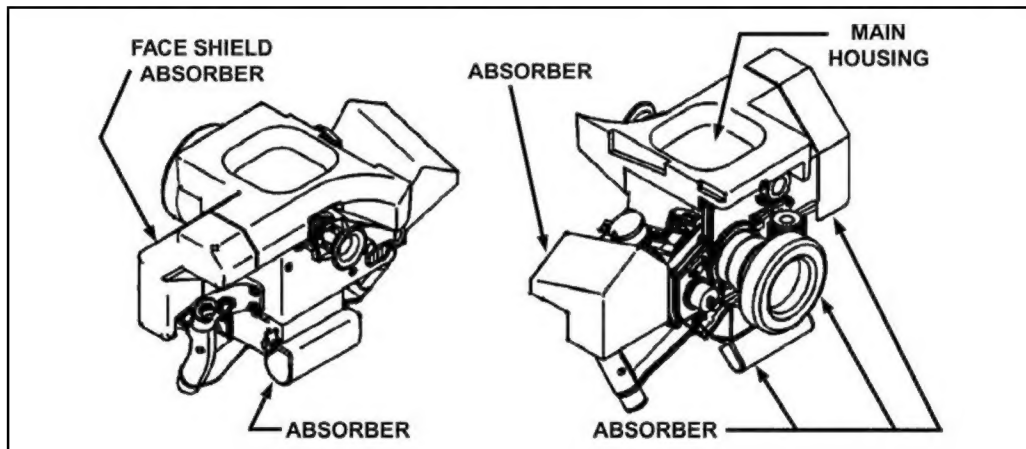

Figure 1-7. Main housing and absorbers.
a. **Main Housing.** The main housing (body) of the CLU (Figure 1-7) contains the system's electronics, the display, daysight, and night vision sight.
b. **Absorbers.** The absorbers (Figure 1-7) around the main housing of the CLU help protect the equipment during operation. The absorbers are replaceable. One absorber is a face shield that protects the gunner's face during missile launch.